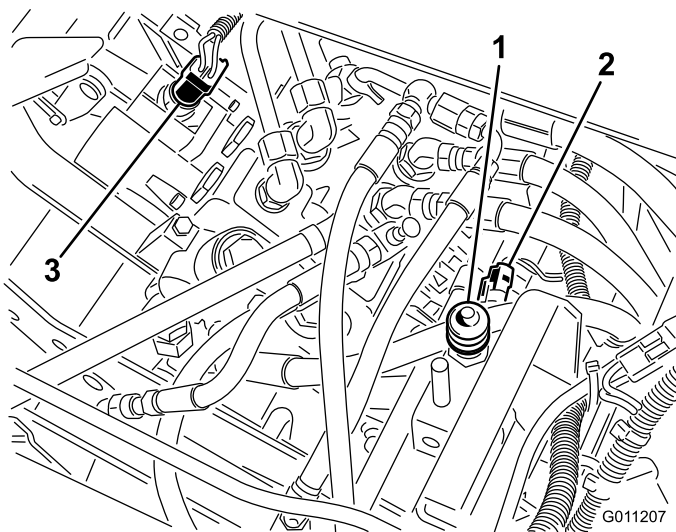

Figure 46
2. Remove the boot from the button end of the seat switch (Figure 46) and retain it for installation on the replacement switch. Unplug the switch connectors.
2. Unplug the switch connectors from the traction switch installed in the valve bank bonnet on the selector valve section (Figure 46).
2. Unplug the switch connectors from the end of the mow/lift switch installed in the valve bank bonnet (Figure 46).